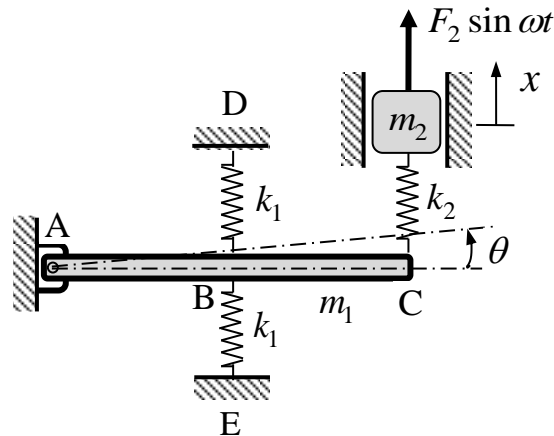

Figure 6
4. Figure 6 shows a 2-DOF vibrating system in its static equilibrium configuration. The system consists of a rigid beam ABC of length  $l$  and mass  $m_1$ , pin-jointed at A and supported by two springs of same stiffness  $k_1$  at the mid-section of the beam at B. The beam carries a spring-mass system of mass  $m_2$  and spring stiffness  $k_2$  at C. Mass  $m_2$  is subjected to a harmonic force excitation of amplitude  $F_2$  at excitation frequency  $\omega$ .